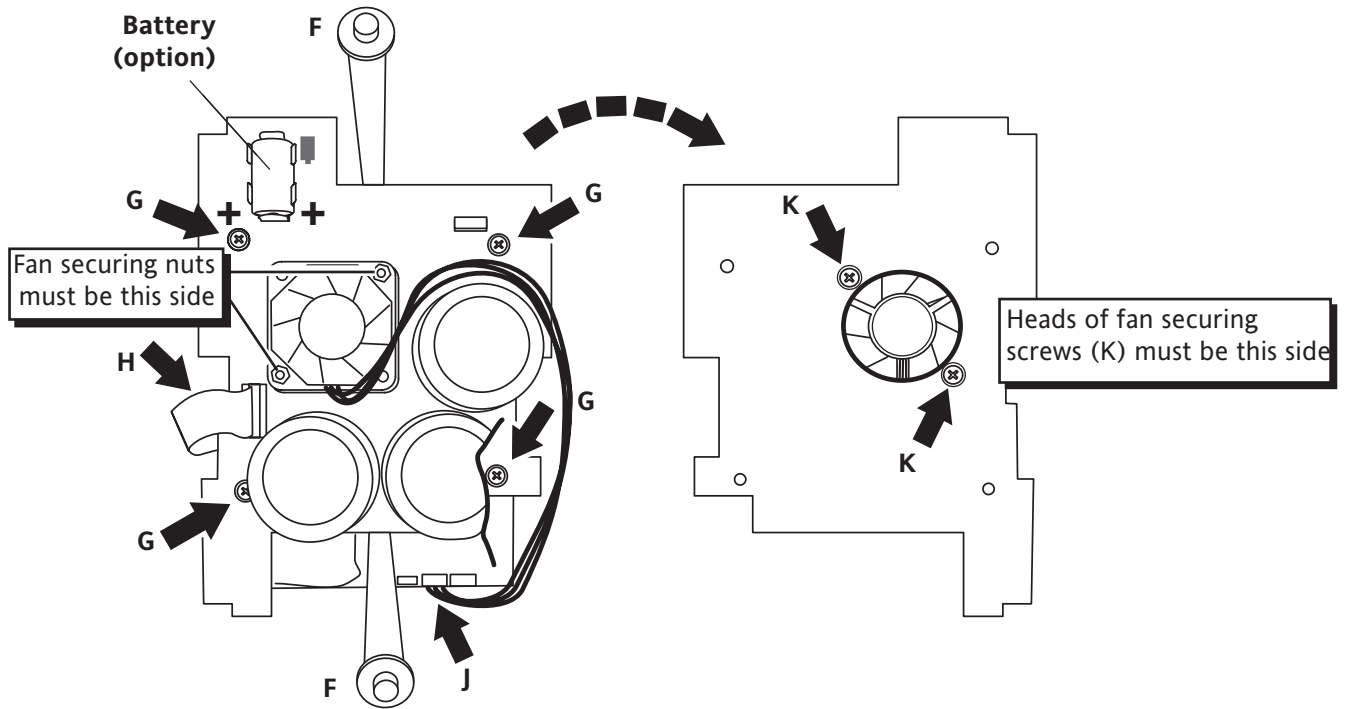

Figure 8.2.3 Capacitor board fan access
4. Ensure, when fitting the battery that it is oriented correctly (as shown in figure 8.2.3), or the RTC data will not be retained.